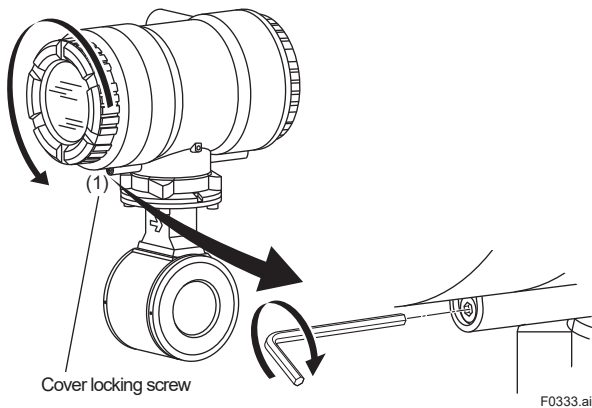
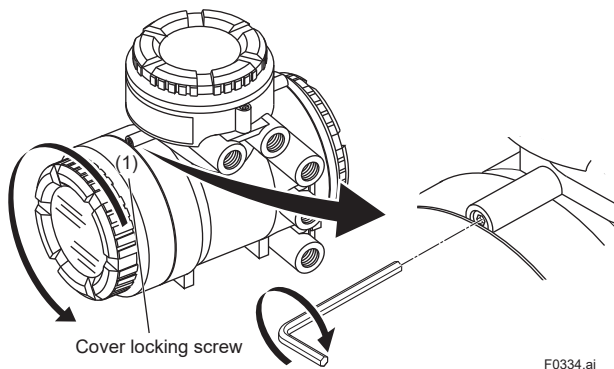

Figure 3.6.1 Removing the Display Cover (Integral Flowmeter)
Figure 3.6.2 Removing the Display Cover (AXW4A Remote Transmitter)
- Using the wrench, loosen the cover locking screw (1) (See Figure 3.6.1 and Figure 3.6.2) clockwise to unlock the cover. Upon shipment from the manufacturing plant, the cover is locked. Hold the flowmeter with your hand. Remove the cover by rotating it counterclockwise.
(3) Installing the Cover
- Tighten cover locking screw (1) (See Figure 3.6.1 and Figure 3.6.2) counterclockwise using a hexagonal wrench (nominal size 3) to lock the cover.